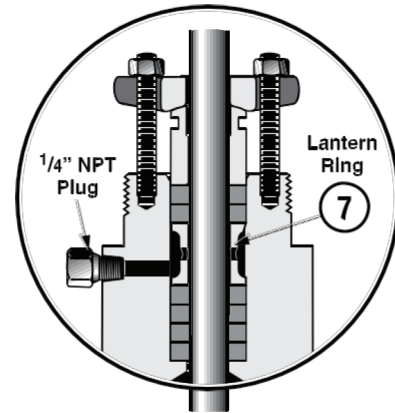

Figure 4 - Lubricator Connection (Option)
J. If a leak detection connection was installed, connect it on the lateral NPT port in the bonnet. If not, ensure that the 1/4" NPT plug remained in place (Figure 4).